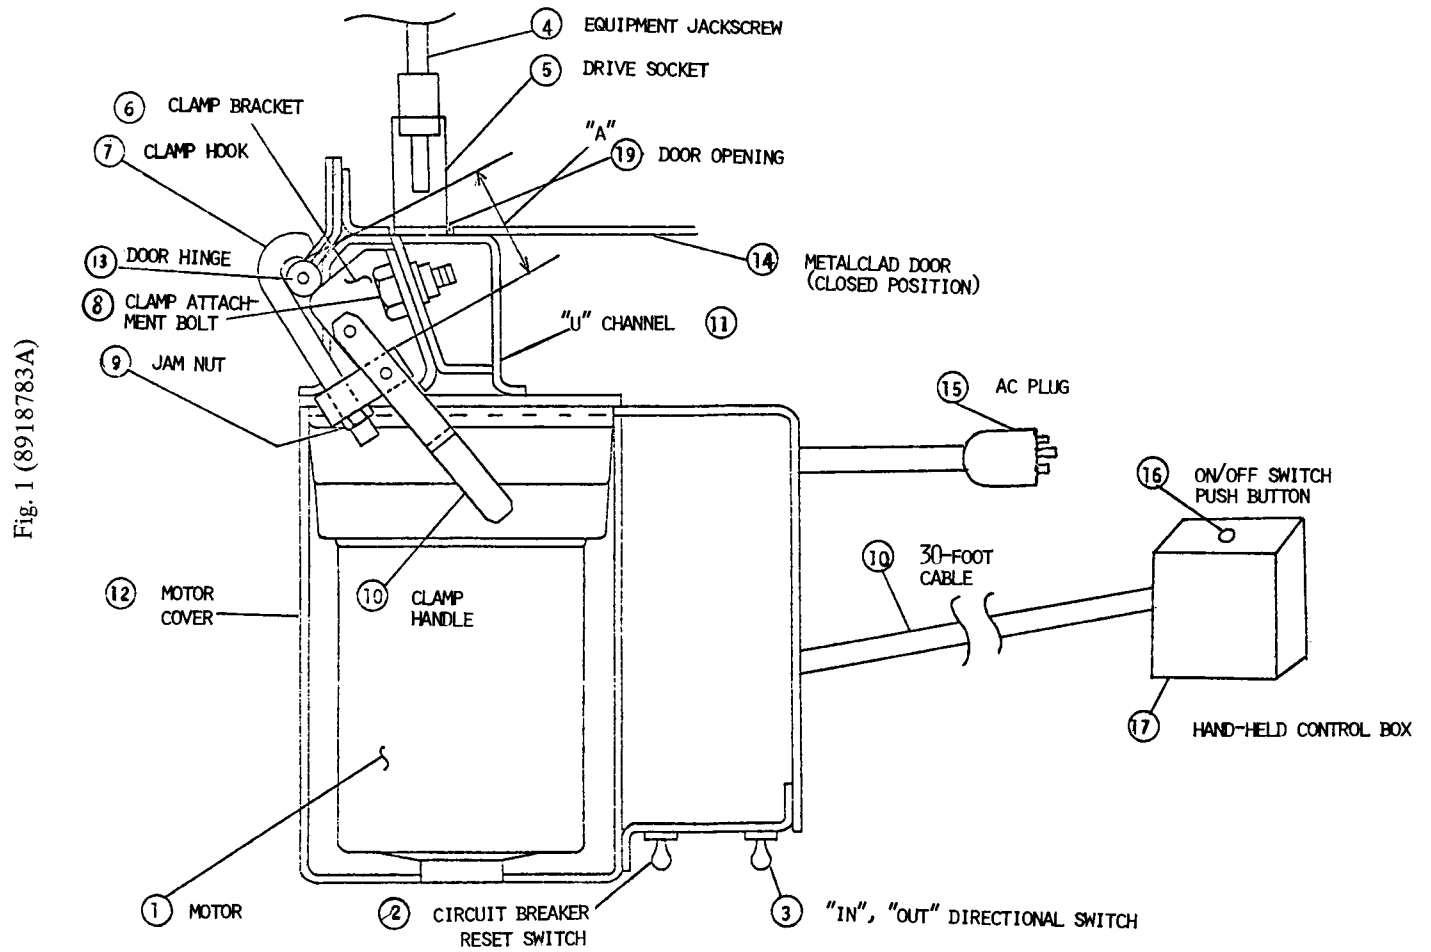
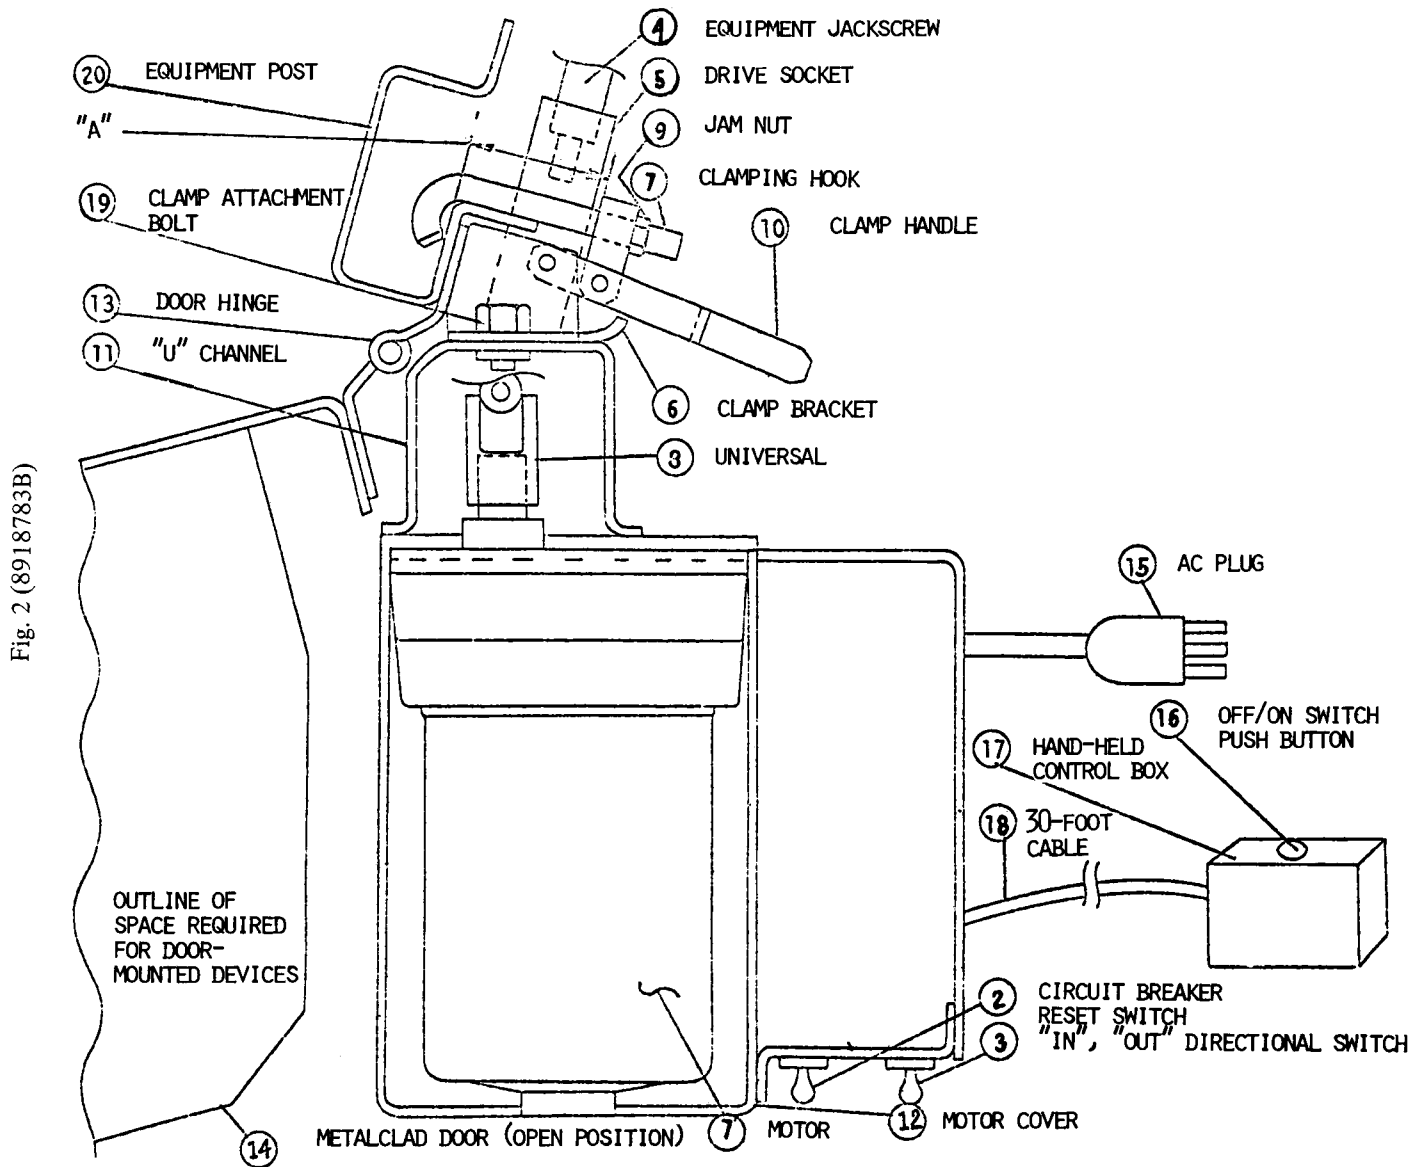

Fig. 1 Remote Racking Operator (Shown for Closed Door Attachment)
Fig. 2 Remote Racking Operator (Shown for Open Door Attachment)
The remote racking operator consists of a drive train, control switches, and attachment clamps. The drive train is made of a gear motor (1, Fig. 1) a six-point drive socket (5, Fig. 1) and a universal joint (8, Fig. 2) which couples the motor to the socket. Two types of operators are provided; one requiring a supply voltage of 115 VAC, 50 or 60 hertz, and the other re-
quiring a supply voltage of 230 VAC, 50 or 60 hertz. The required supply voltage is identified on the motor cover (12, Fig. 1). For the 115V type, the voltage connection is made via a three-prong grounding plug extending from the operator. For the 230V type, the plug is to be supplied by the user, to fit his type of receptacle.
Two control switches and a circuit breaker are included with each remote racking operator. The ON/OFF switch (16, Fig. 1) housed in the hand-held box (17, Fig. 1) controls the power to the motor. Pushing the button closes the switch and in turn supplies current and voltage to the motor. This control switch is spring loaded, therefore, continuous pressure on the button is required to keep the motor running. The motor directional control switch (3, Fig. 1) is mounted on the motor housing. Two positions are provided, "IN" and "OUT". For racking toward the connected position the switch should be set to "IN". For racking toward the disconnected position, the switch should be set to "OUT". The circuit breaker (2, Fig. 1) senses the motor stall current when the breaker reaches the end of its travel and causes the motor to stall. The higher
The clamps are designed to provide the means for attaching the remote racking operator to the front of the metalclad. Two clamps are provided with each operator, an upper and a lower. Two locating positions are provided for each clamp, one for closed door (Fig. 1) mounting and the other for mounting with the door open (Fig. 2). The forward clamp locating position (shown in Fig. 2) is to be used when racking is desired with the metalclad door open. Open door racking is recommended only for the POWER/VAC* manual ground and test device, see instruction manual GEK-39677. The inboard clamp location (shown in Fig. 1) is the normal location and is used for attaching the operator to the metalclad when the door is closed.
- 1) Position the upper and lower clamps as shown in Fig. 1. Tighten the clamp attachment bolt (8, Fig. 1) to 25-20 inch-pounds.
- 2) Insert the drive socket (5, Fig. 1) into the door jack screw opening (19, Fig. 1) until the "U" channel (11, Fig. 1) is flush with the door (14, Fig. 1). The socket may have to be rotated to align it with the equipment jack screw (4, Fig. 1). Move the operator laterally until the door hinge (13, Fig. 1) rests in the "V" formed by the "U" channel (11, Fig. 1) and the clamp bracket (6, Fig. 1).
- 3) Position the clamping hook (7, Fig. 1) end behind the door hinge (13, Fig. 1). Adjust the hook length "A" so that the operator is firmly attached. The length "A" can be changed by simply turning the clamping hook (7, Fig. 1). A jam nut (9, Fig. 1) is provided to lock the clamping hook in place.
- 1) Position the upper and lower clamp as shown in Fig. 2.
Tighten the clamp attachment bolt (19, Fig. 2) to 25-20 inch-pounds.
- 2) Insert the drive socket (5, Fig. 2) over the jack screw (4, Fig. 2) until the clamp bracket (6, Fig. 2) nests in the equipment post corner (20, Fig. 2). Rotate the socket (5, Fig. 2) as required for alignment with the jack screw hex.
- 3) Position the clamping hook end (7, Fig. 1) inside the equipment post as shown in Fig. 2. Adjust the hook length "A" as required so that the operator is firmly attached when the clamp is actuated.
- 3) Set the circuit breaker switch (2, Fig. 1) to "ON".
- 4) Set the direction control switch to "IN" or "OUT" (3, Fig. 1); "IN" for racking to the connected position, "OUT" for racking to the disconnected position.
- 5) Carry the hand-held control box (17, Fig. 1) to a safe remote location. Push the on-button (16, Fig. 1) and